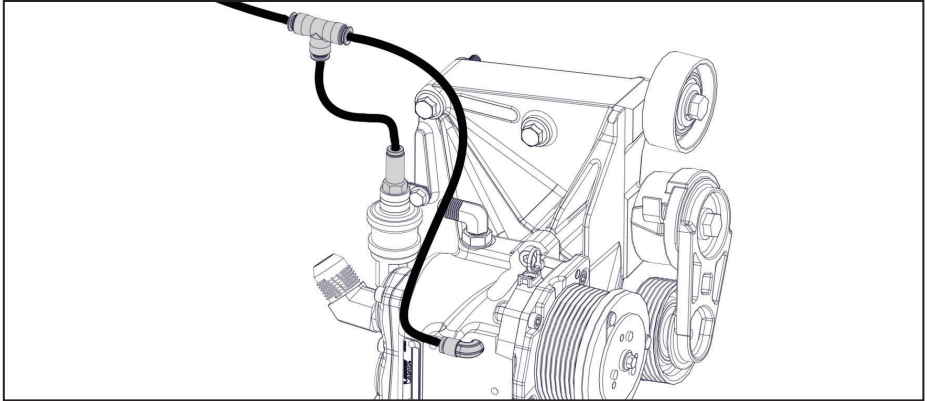

Figure 34 — Install pressure switch
- From the 48 in spool of 1/4 in PTFE tubing, connect the scavenge tube to the compressor, pressure switch assembly, and Union Tee (Figure 34).